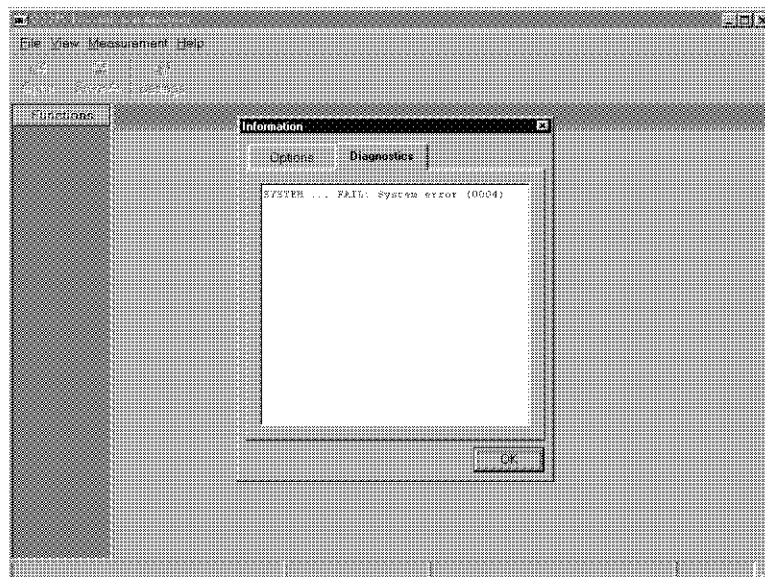

Figure 1-14 Self-test Error Display
2. *Refer to Chapter 2.7.12, "Self-Test" when the measurement initialization screen and information as shown in Figure 1-14 are displayed.*